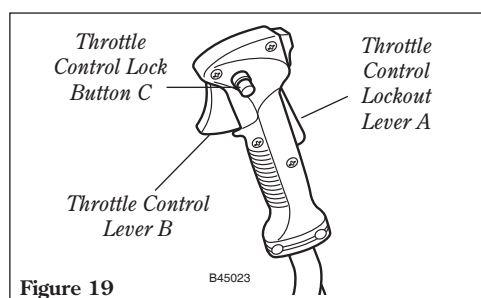

Figure 19
- d. While depressing throttle lever lock C, release throttle lock lever B and lockout lever A. See Figure 19.